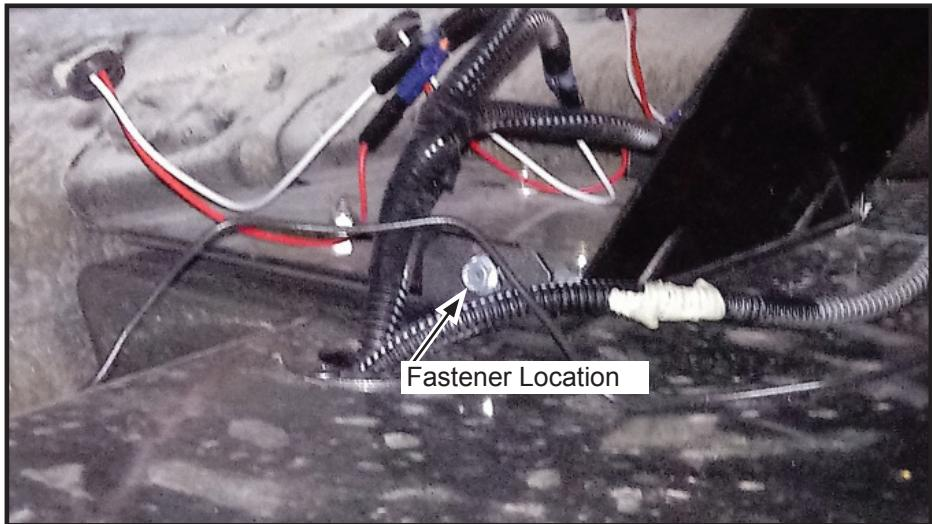

Figure 13
22. Using the two 1/4" HWH self-drilling screws, included in the parts kit, fasten through the center mounting plate tabs into the bracket attached to the rear air deflector at the location shown in Figure 13. The doorside is shown; the roadside is similar.